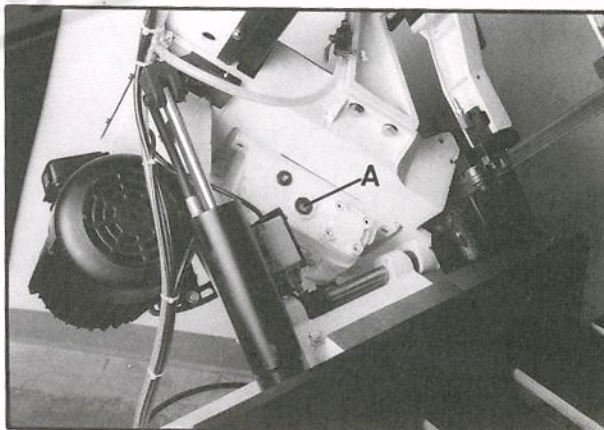

Fig. 17
4. Remove filler cap (A, Fig. 17) and fill gear box with 50 weight gear oil until level reaches dot in middle of sight glass.